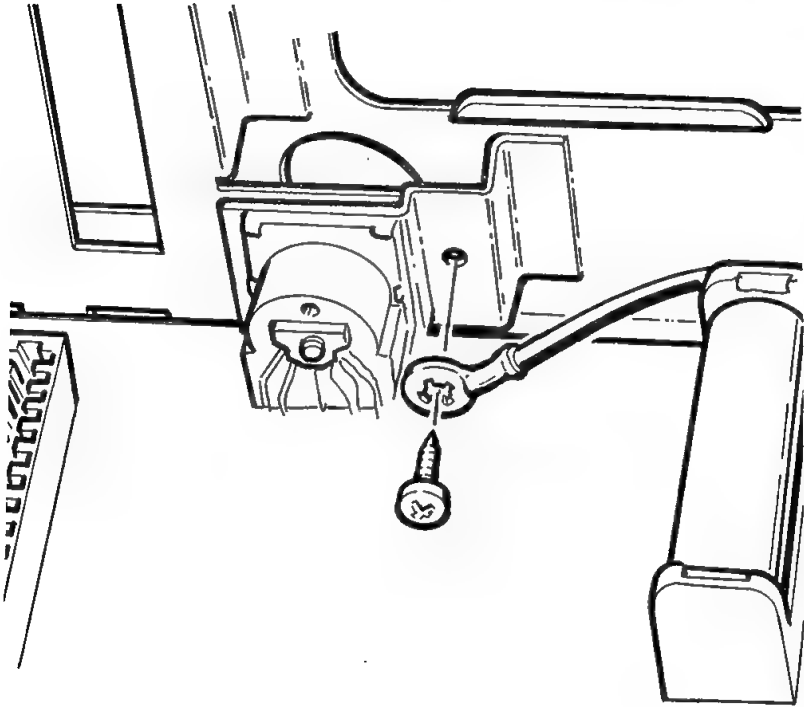

Figure 3-5. Power Supply Ground Lead
5. Disconnect the power supply ground lead from the computer chassis, as shown in Figure 3-5.
4. Disconnect the power supply ground lead from the computer chassis, as shown in Figure 3-5.